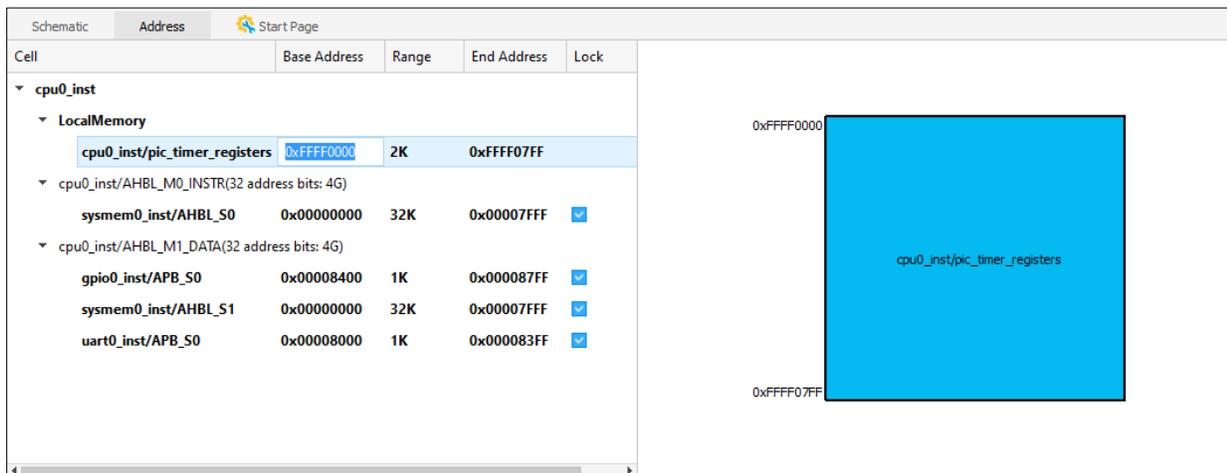

Figure 2.80. Edit Base Address
- (Optional) Double-click the base address in Address view (Figure 2.80). Type the new value and press **Enter**.